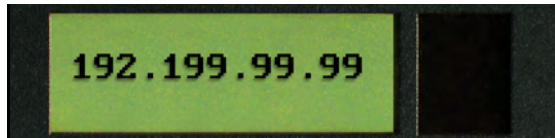

FIG. 32 Example of the current IP Address
3. After the unit has successfully obtained an IP Address from the DHCP Server, it then displays this obtained DHCP Address across the front LCD (FIG. 32).